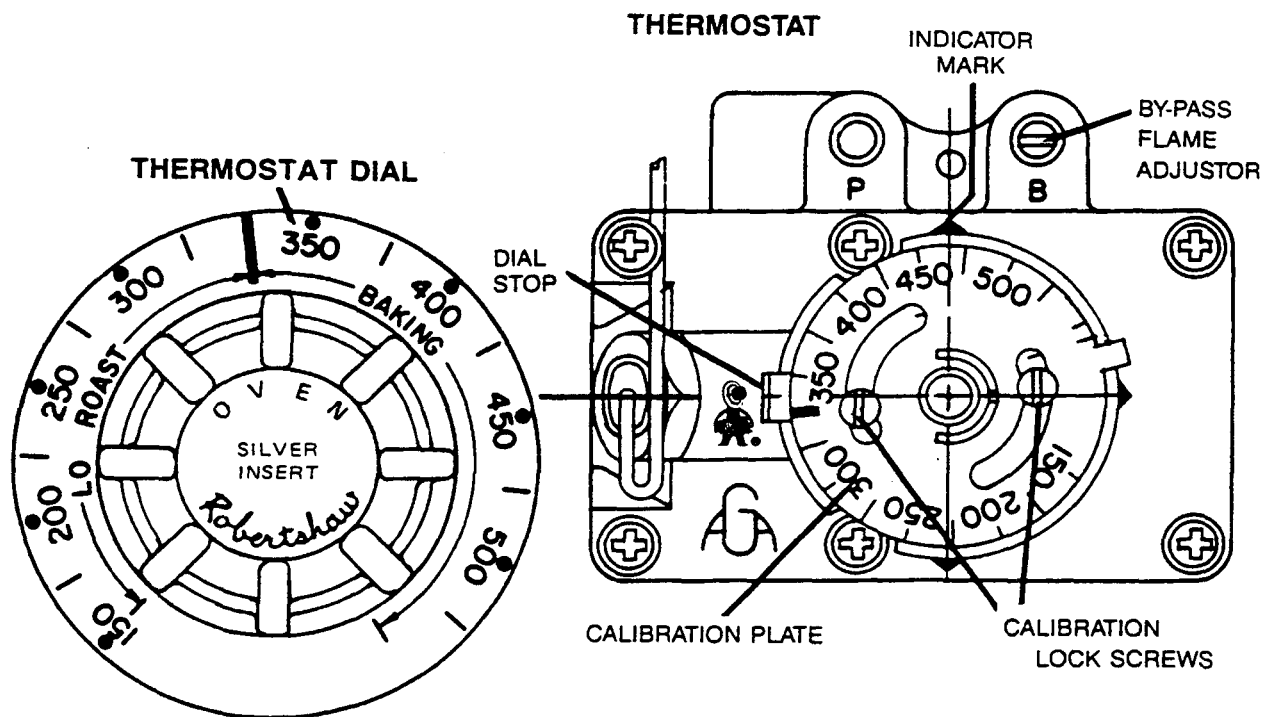

Fig. 1
7. With a screwdriver, turn "bypass flame adjuster" screw counterclockwise to increase the bypass flame or clockwise to decrease the entire burner to a 1/8" minimum — 1/4" maximum stable flame. (See Fig. 1, Section 3, Page 3)
2. Remove knob. Use indicator mark as shown in Fig. 1 for all dial settings.